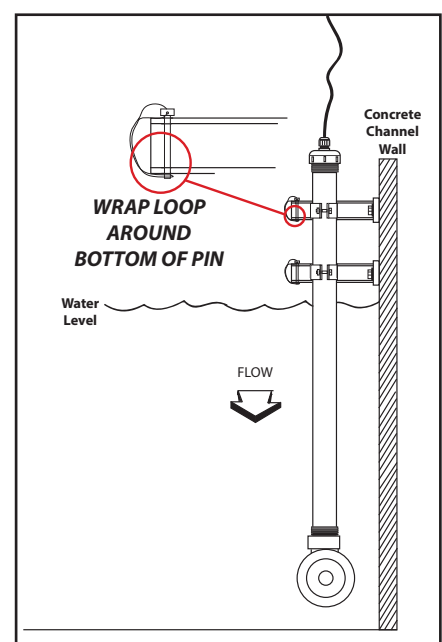

FIG. 31
- L) Reinstall locking pins into wall mount brackets. See FIG. 31